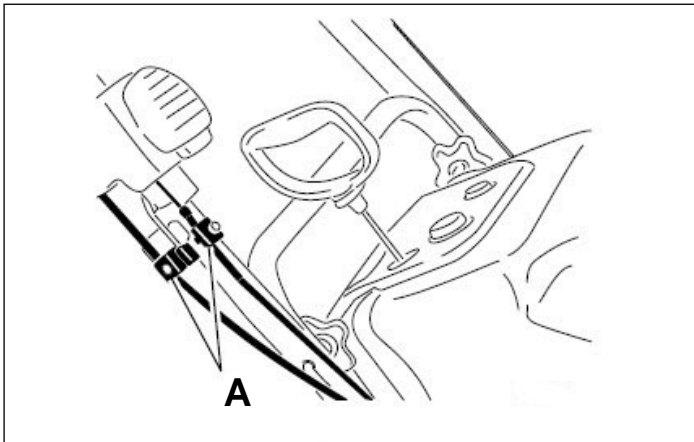

Fig. 024
1. Loosen the two Quick Shoot control cable clamps (Fig. 024).